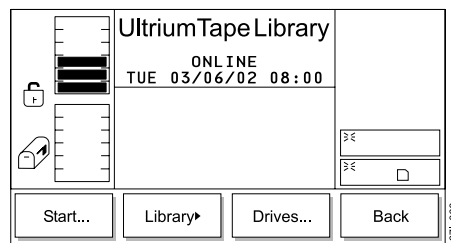

Figure 281. Service Menu
- Press the button below the **Service** softkey. The Service Menu displays (see Figure 281).